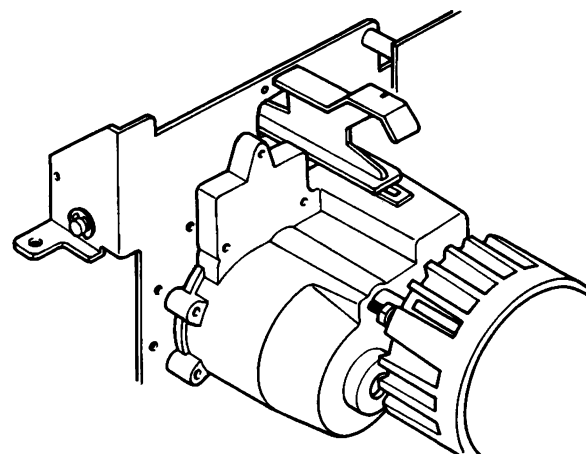

Fig. 57
- (1) Set the speed change knob in the guide groove of the gear cover and put the gear cover on the head frame. (Refer to Fig. 57)